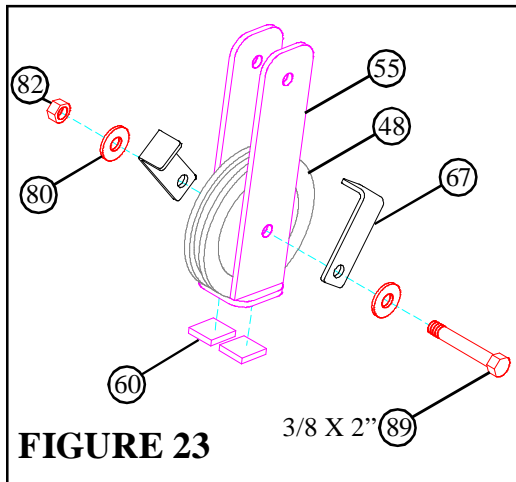

**FIGURE 22**
- Route the threaded end of the LAT CABLE (42) through the TOP BOOM (30) as shown in FIGURE 22.
- **SECURELY** assemble two 4-1/2" PULLEYS (48) into the slots of the TOP BOOM (30) using two 3/8 X 2-3/4" BOLTS (90), four 3/8" FLANGE SPACERS (69), two 2-7/8" X 2-1/4" CABLE CLIPS (116) and two 3/8" LOCK NUTS (82). (NOTE: Loop the cable around each pulley prior to inserting it in the the slot.)